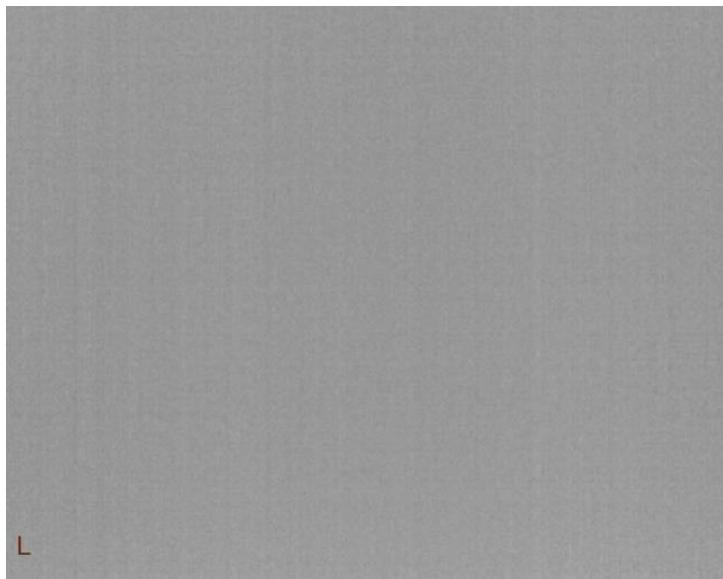

Figure 32: “Low-Gain” Symbol (Factory-Default)
- Low-Gain State: By factory default, the symbol shown in Figure 32 is displayed whenever the camera is operating in low-gain state. (See Section 6.2 for a full description of this state.)
- **Current NUC Table**: The *Current NUC Table* variable indicates the current NUC table in which the camera is operating. As described in Section 5.2, a value of 0 indicates Boson is in low-gain state while a value of 1, 2, or 3 indicates Boson is in high-gain state. There is no symbol overlay symbol to indicate this status directly. However, when Boson is operating in low-gain state, a purple “L” will appear by factory-default in the lower-left of the post-colorization video signal. (See Figure 32 in Section 6.8.)